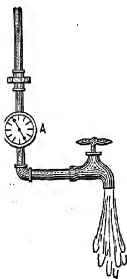

FIG. 7. The water meter *A* measures the flow of water through the pipe.
**7. Measurement of Current. Ammeter.** If we wish to measure the current of water which is flowing through a pipe, we insert a flowmeter into the pipe as (A) in Fig. 7. The current of water flowing through the pipe also flows through the flowmeter and causes it to indicate the number of gallons per second which pass through it. We can't